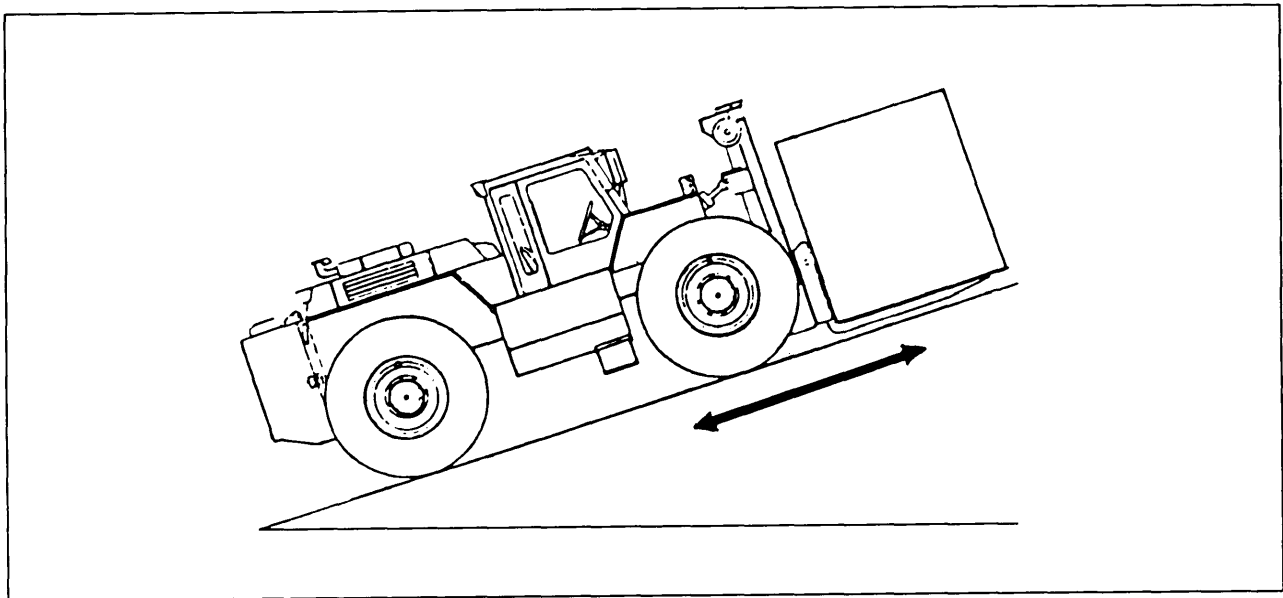

Figure 8-21.—Direction of travel on a grade.
3. You should ascend and descend a grade with the load pointing upgrade when operating a loaded forklift on an incline (fig. 8-21). Normally, direction of travel should be determined by what direction the operator can see best. This is why forklifts are built with reverse as well as forward travel. But, on grades of 10 percent or more, both forklift and load stability demand that the load be kept upgrade.